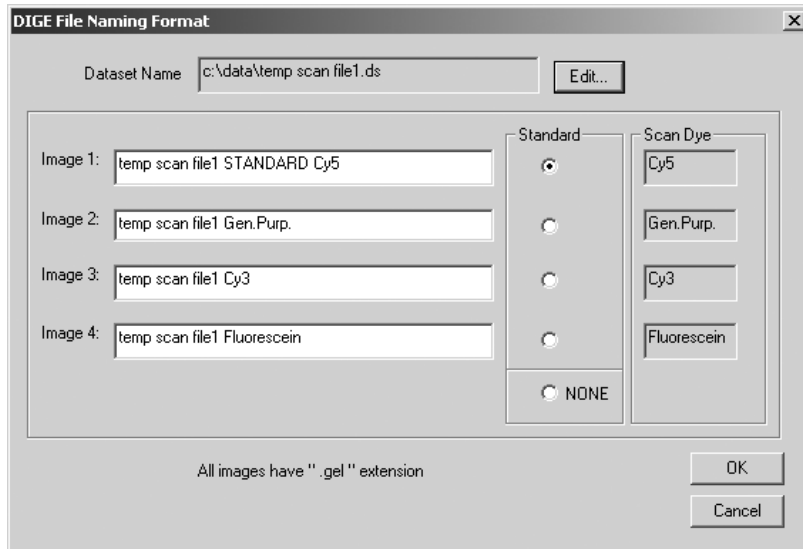

Fig 9-8. The DIGE File Naming Format window.
- 6 (Optional) If you want to change the dataset name or the individual file names for a sample, click the file name that you want to change and then click the **Edit Sample File Names** button. The DIGE File Naming Format window appears and displays the default names for each image of the multichannel image (fig 9-8).